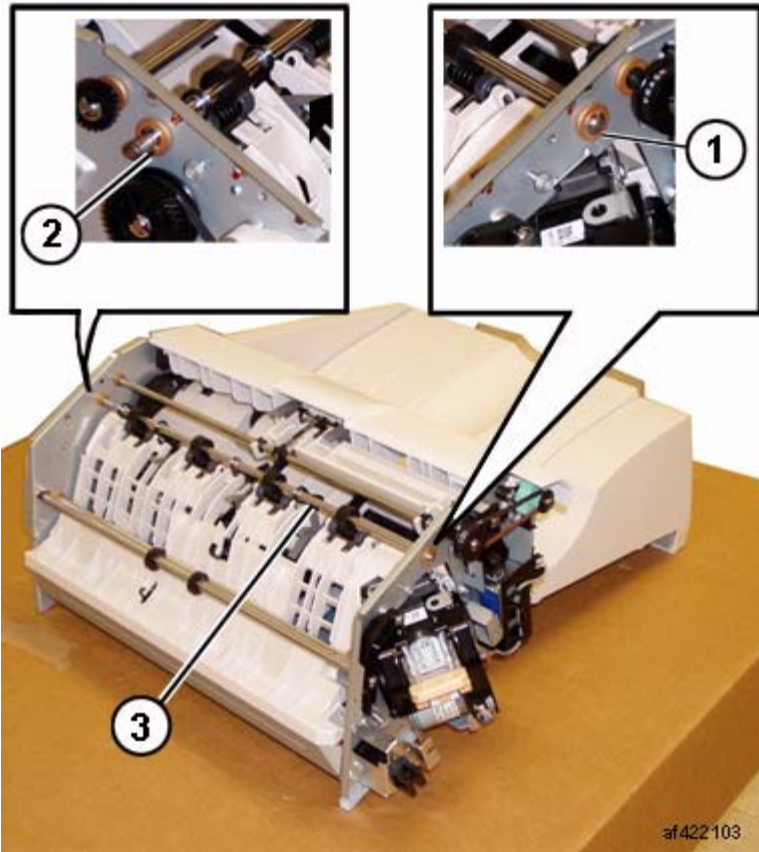

Figure 3 Removing the Exit Roll Assembly
- (1) Remove Screws (2).
- (2) Remove Screw.
- (3) Carefully Remove the Upper Chute Assembly.
8. Remove the Exit Roll Assembly (Figure 3):